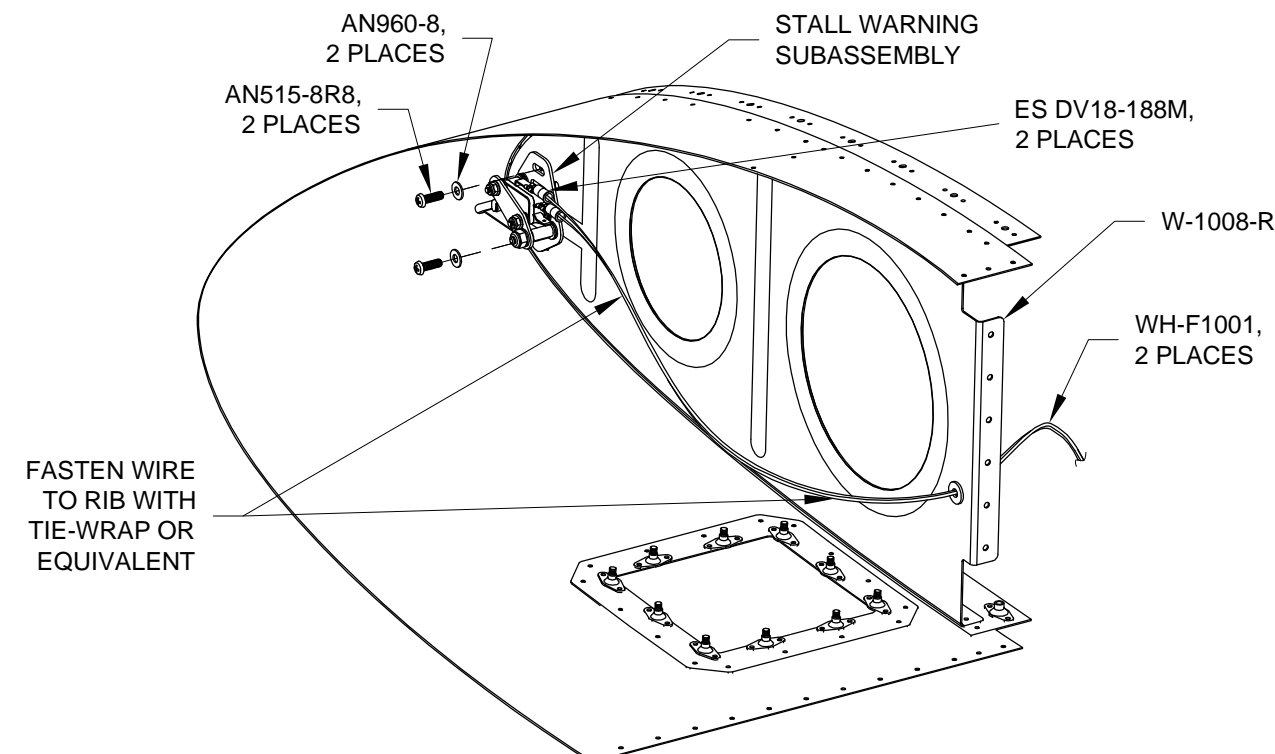

FIGURE 2: INSTALLING THE STALL WARNING SUBASSEMBLY
Step 5: Install the Stall Warning Subassembly on the W-1008-R Splice Rib as shown in Figure 2. The upper screw goes through the slot in the VA-195A Mount Plate and allows the angle of the Stall Warning Subassembly to be adjusted. Adjust the subassembly until the VA-196 Vane activates and deactivates the ES E22-50K micro switch with the minimum travel possible (it is permissible to bend the arm on the micro switch if/as required).
Step 8: Install the WH-F1001 Wires to the COM. (common) and N.O. (normally open) terminals of the ES E22-50K Micro Switch. Rout the wires inboard through the snap bushing in the W-1008-R Splice Rib's aft tooling hole. See Figure 2.